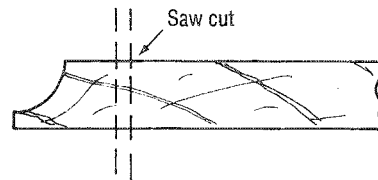

Fig. 4.69 Sawing off the scribed section.
5. Using a sawing machine, cut off the scribed section (Fig. 4.69).